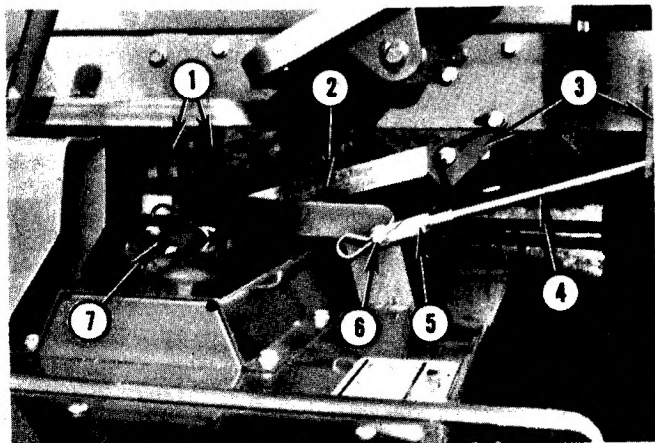

FIG. 10.19--ATTACHING MOWER
3. Attach rear lift arms to rear anchor plates as shown in Fig. 10.19
4. Attach hanger straps to mower as shown in Fig. 10.19